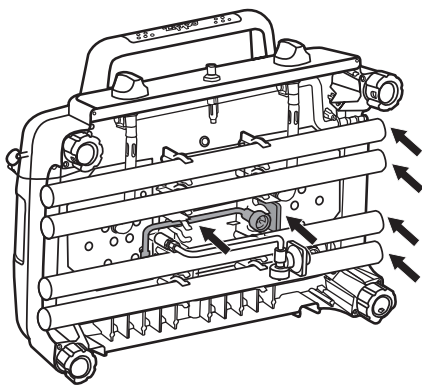

figure 17
2. Ensure optional accessory legs and regulator are secured into leg retainer, as shown in figure 17.